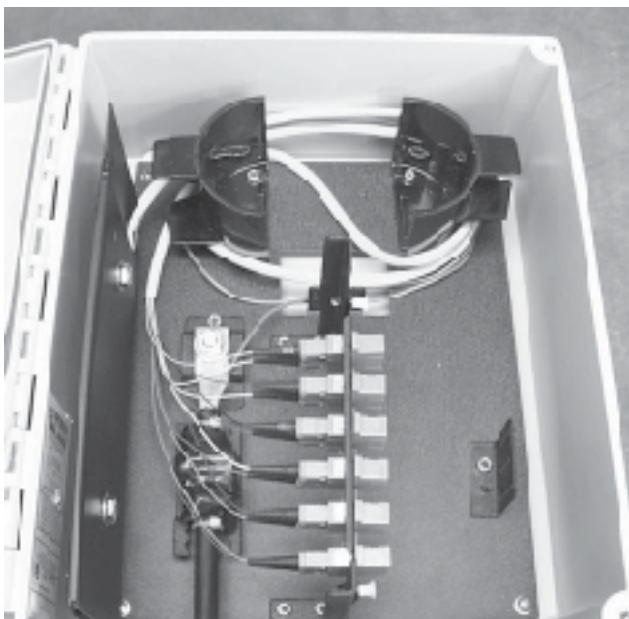

Figure 18
11.6 Once all splicing is complete, route the buffer tubes and pigtails around the radius control guides as shown in Figure 18. Route the buffer tubes as shown in order to maintain the appropriate bend radius to the connector panel.
11.7 Secure the splice tray to the wall as shown in Figure 18. Discard spacers as required for the type of tray installed.